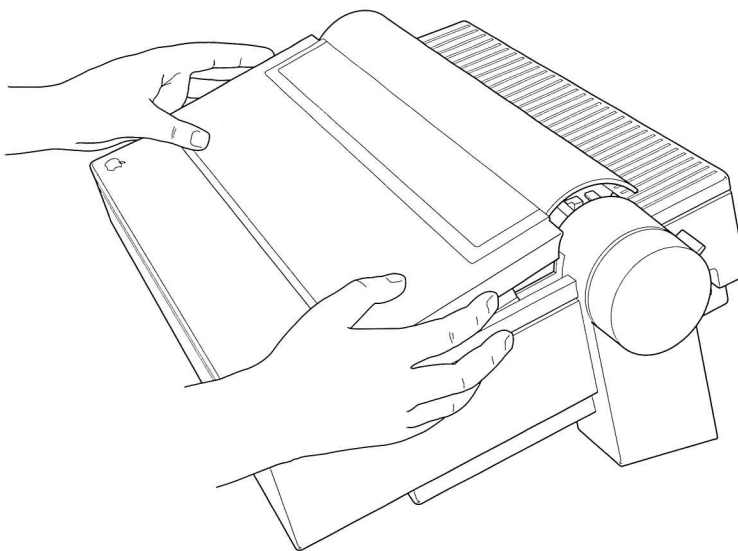

Figure 2-2 Removing the front cover
4. Take off the front cover by grasping its sides (at the arrow icons) and lifting upward. (See Figure 2-2.)